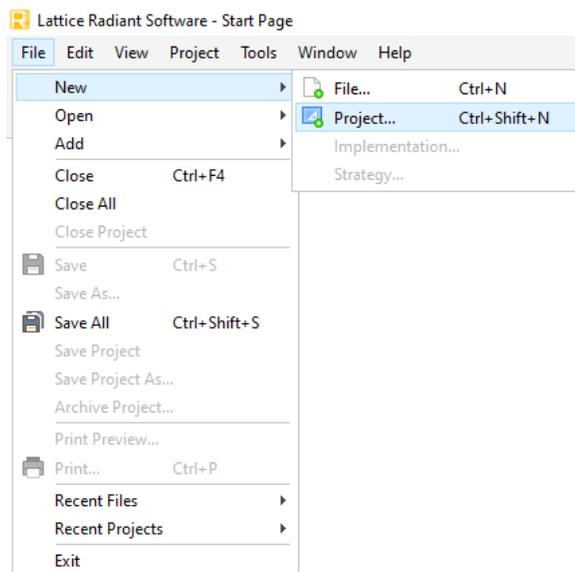

Figure 6.1. Creating a New Lattice Radiant Project
1. Launch the Lattice Radiant software and select **File > New > Project**, as shown in Figure 6.1. The **New Project** window opens. Click **Next**.